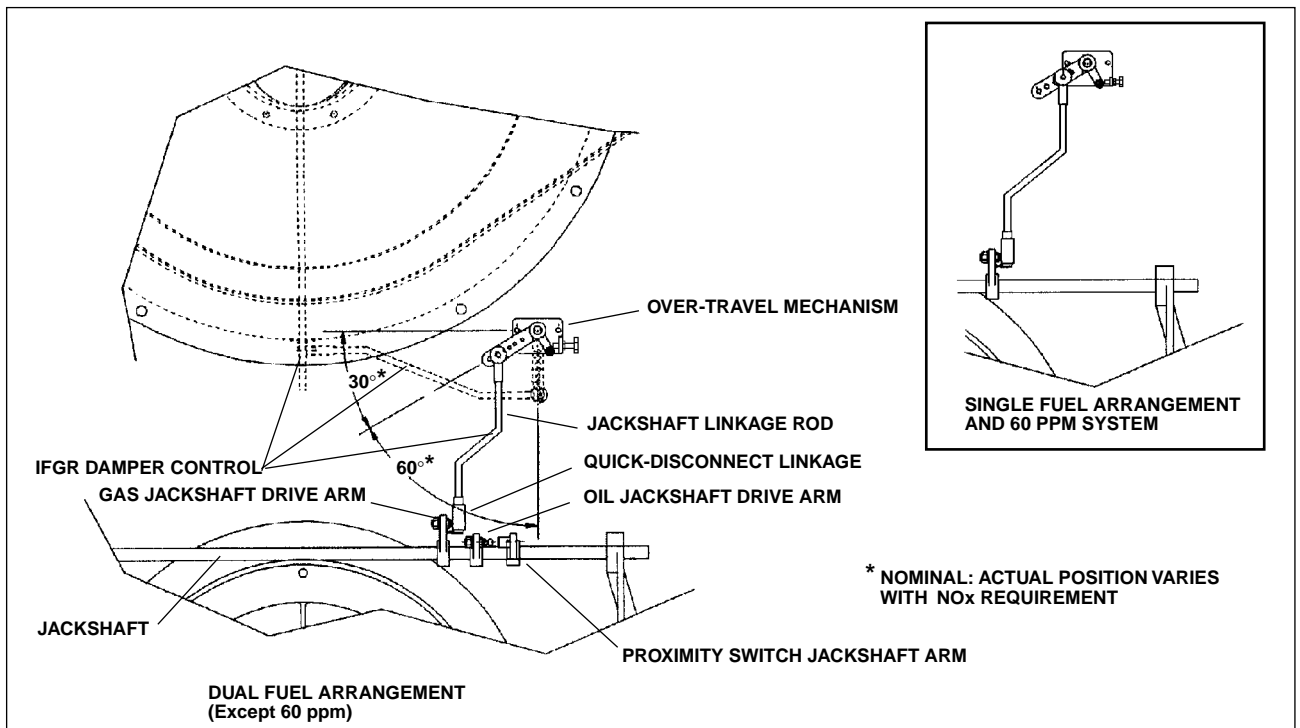

Figure: 1-16 IFGR Damper Linkage
2. IFGR Damper Linkage (Figure 1-16). The IFGR damper is positioned by the control linkage. The linkage could consist of a single arm, or it could consist of several arms driven from the jackshaft to provide modulating control (see Figure 1-16).
4. Fuel Change-Over Linkage (Figure 1-16). When a boiler is equipped to fire either gas or oil (dual-fuel boilers), and the required NO_x levels are below 60 ppm on natural gas, a dual-linkage arrangement is used to provide the different recirculation rates required for each fuel. Two jackshaft drive arms are provided, one for oil and one for gas. The linkage is manually connected to the appropriate arm, based on the fuel being used.